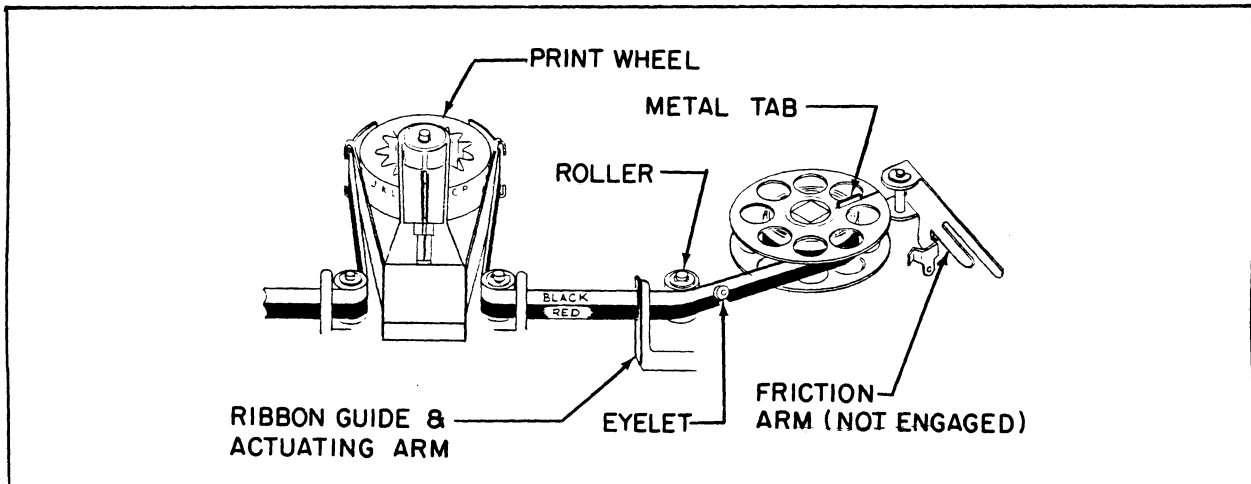

Figure 6.4
- B. Push each friction arm away from its spool until the arm is held open. (Figure 6.4.)